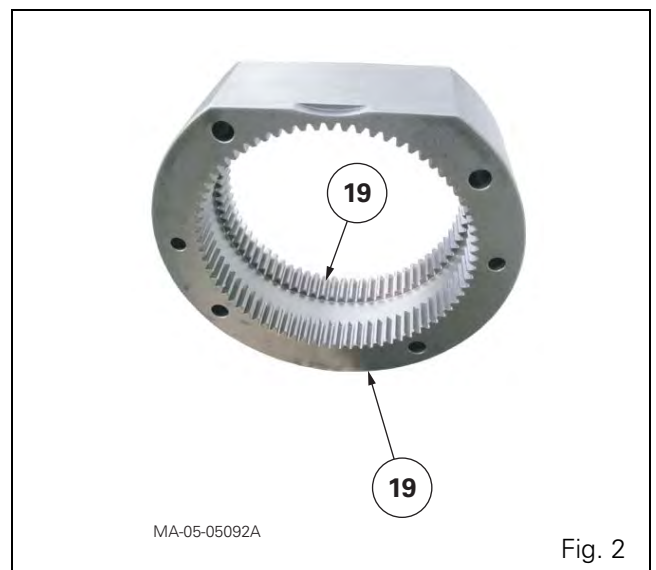

Fig. 2
Each ring gear (19) is machined in a single unit (Fig. 2).